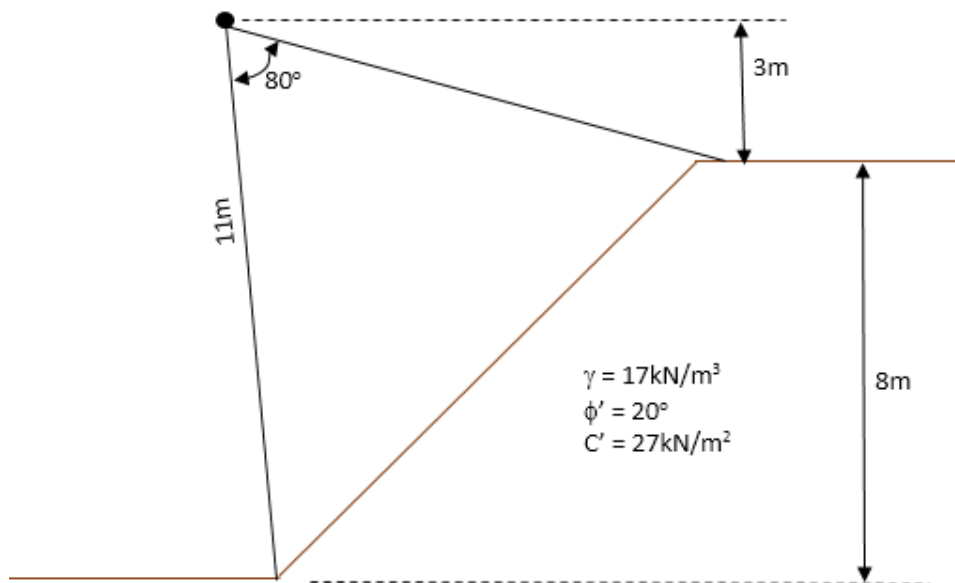

Figure 4 / Rajah 4
- [b] At a particular site, a cut slope is to be made as shown in **Figure 4**. Using ordinary method of slices, determine the Factor of Safety for the slope. Use graph paper to redraw the slope according to scale. (Maximum 4 slices)